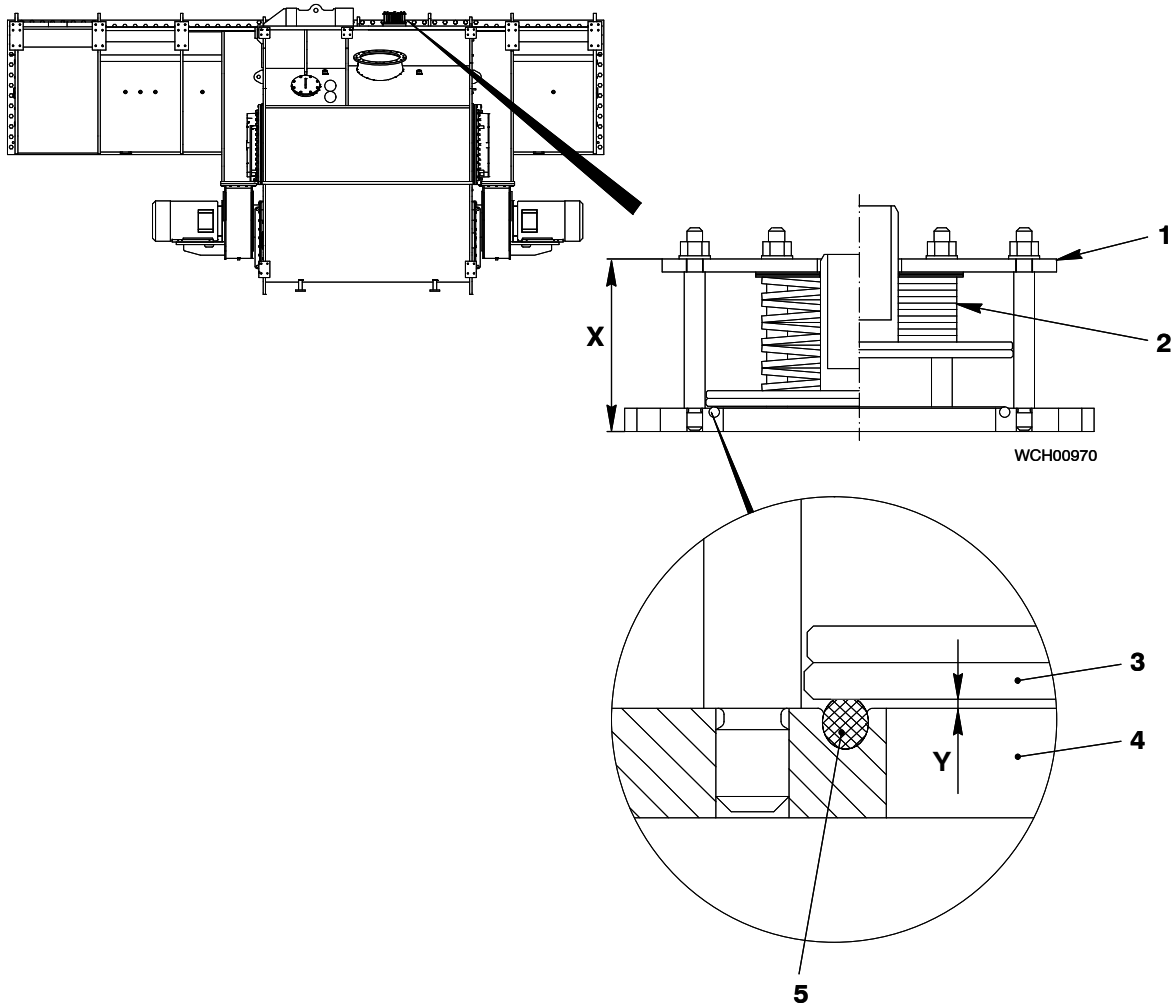

Fig. 4: Relief Valve
- a) Do a visual check for damage and corrosion. If necessary, replace the relief valve (1, Fig. 4).
- b) Make sure that there is a clearance Y between the flange (4) and the seal plate (3), ie the O-ring (5) is serviceable.
- c) Make sure that the distance X is 133 mm, ie the pressure of the disc springs (2) is sufficient.